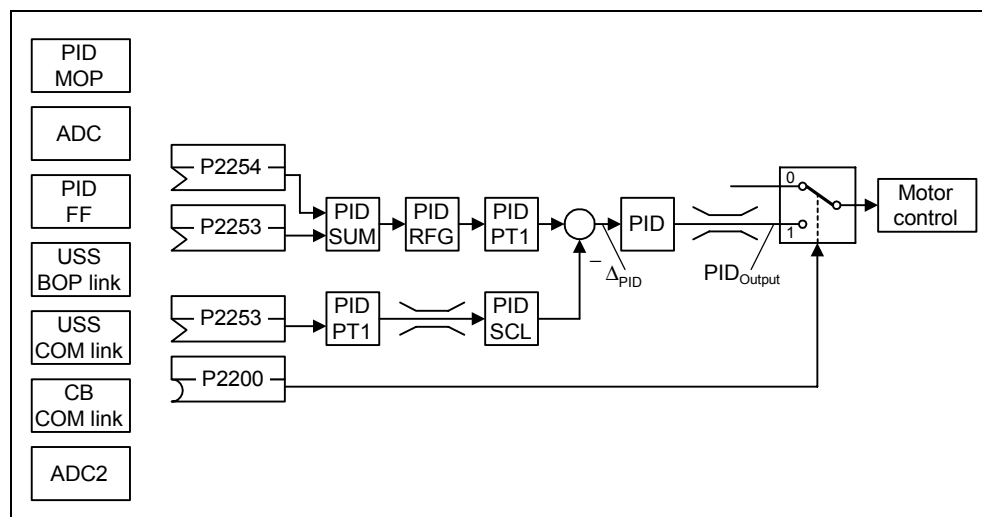

Figure 10-10 PI Basic Block Diagram
Closed loop control is widely used in industrial applications to control a wide variety of processes. Control engineering is a complex subject, but a simple closed loop control uses a feedback signal from the process (such as temperature, pressure, speed) a desired value or setpoint (often set manually) and a control system that compares the two and derives an error signal. The error signal is then processed and used to control the inverter and motor (in this case) to try to reduce the error. The error signal processing can be very complex because of delays in the system. The error signal is usually processed using a Proportional and Integral (PI) controller whose parameters can be adjusted to optimize the performance and stability of the system. Once a system is set up and stable, very efficient and accurate control can be achieved. See Figure 10-10 on page 128.
A block diagram showing the relationships and interaction between PI Setpoint and PI Feedback is shown in Figure 10-10 on page 128.